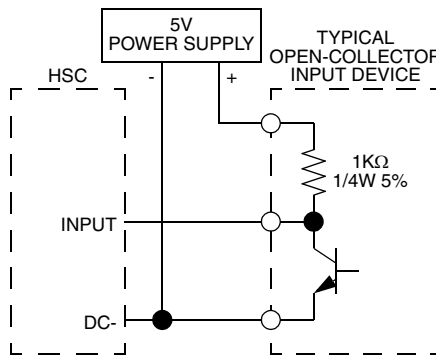

Figure 92. TTL Open Collector Device Powered by External Power Supply
- 1K ohm, 1/4 Watt, 5% for a +5 V power supply, Figure 92.